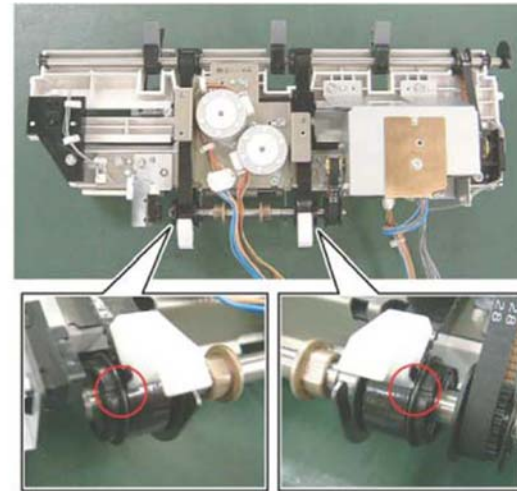

Figure 2 Eject belt installation
2. Ensure the eject belt is aligned with the marks on the pulleys, Figure 2.